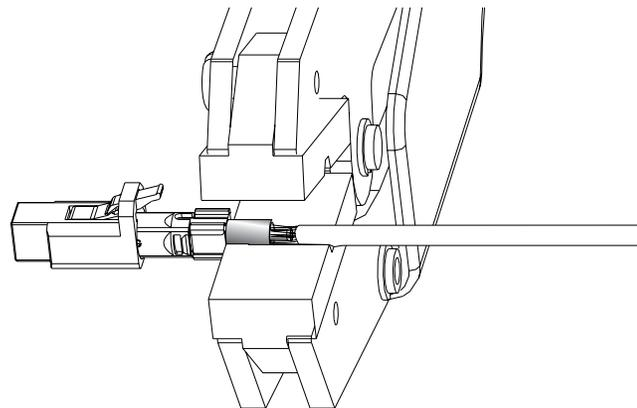

Figure 4-45
**4.8-12** Place the connector crimp ring into the opening of the crimp tool jaws (Figure 4-45).